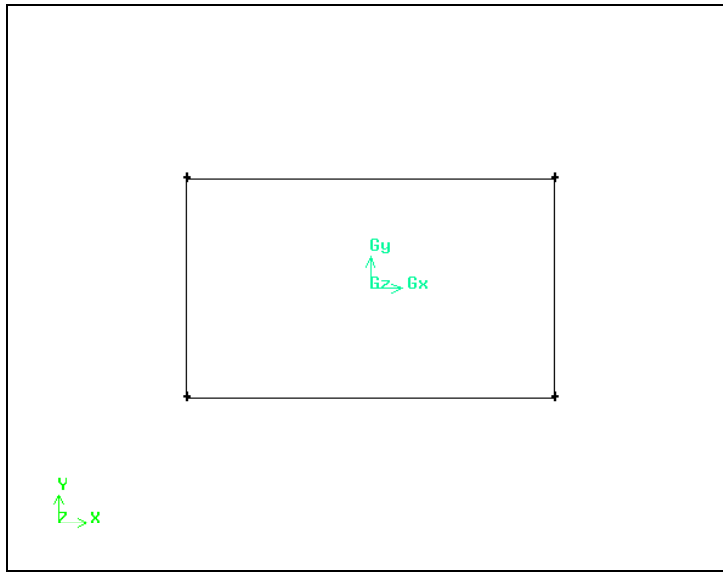

Figure 1-3: Rectangular brick volume (side view)
*A message appears in the **Transcript** window at the bottom left of the GAMBIT GUI to indicate that a volume, called **volume.1**, was created. The volume will be visible in the graphics window, as shown in Figure 1-3.*